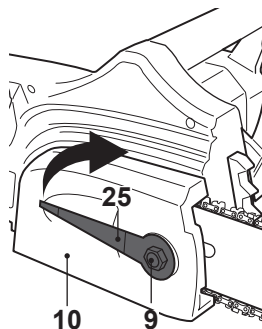

Fig. 7
- > Replace the cover (10) and slightly tighten the retaining nut (9) clockwise with the wrench (8) (Fig. 7). Do not tighten the locking nut completely; saw chain tensioning is required first.